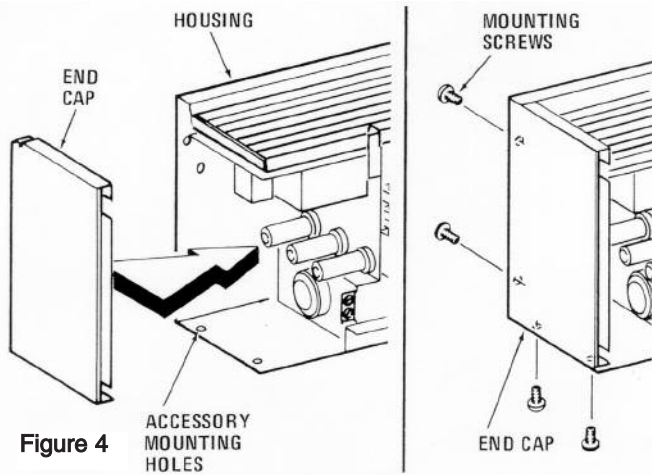

Figure 4
17. Before energizing, make sure front cover is properly installed onto the back housing along the entire length of the heater – See Fig. 4. Do not operate heater without front cover installed.
3. Install end caps (must be purchased separately) on both ends of the heater housing. Refer to Figure 4 for details of end cap installation.
6. Install end caps (6) on the outer end of the last heater(7) and (9) using four #6 screws supplied with end caps. (Refer to Figure 4 for details of end cap installation.)